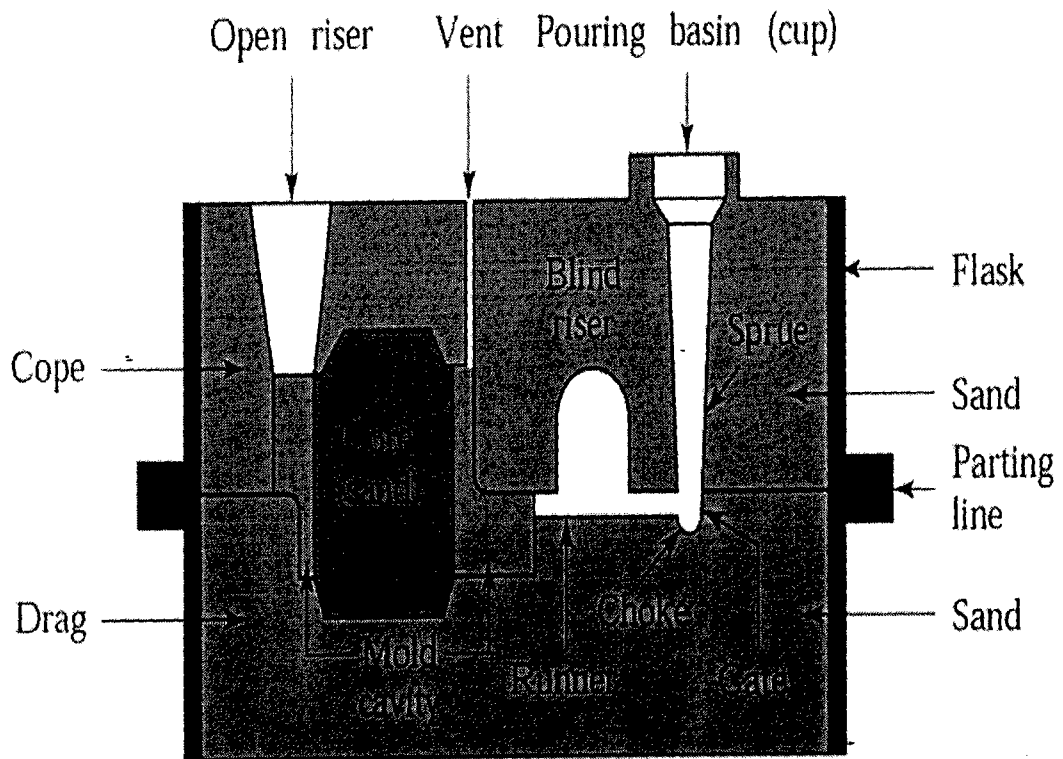

Figure 9/Rajah 9
6. A schematic illustration of a sand mold is shown in **Figure 9**.